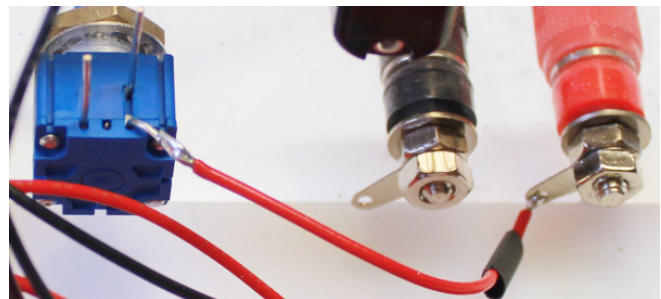

Figure 29
29. Cut the red wire to fit between the red binding post and its connection to R1 (the blue pot in Figure 29). There are three wires on R1. Make sure you connect the red wire to the correct one. There are two wires near the back of the pot and one that is nearer the face plate. The red wire connects to the rear wire on the right side as seen in Figure 29. Before you solder the red wire to the pot, slide a short piece of heat shrink tubing on the wire (do this only if you are working in the GEAR lab and have access to the heat gun). After you solder the wire to the pot, slide the heat shrink tubing in place and heat with heat gun to fix in place.